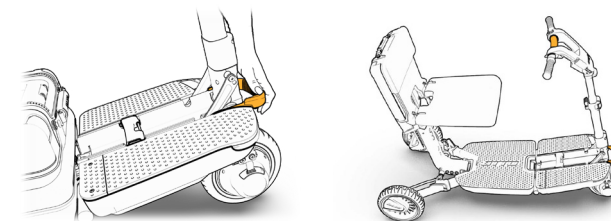

Figure 41
5. Use one hand to keep the rod upright. Using your other hand, release the front lever (1) In case the front lever requires too much force to operate, you should apply horizontal pressure on the main handle towards the front of the ATTO (2). This will release the pressure on the front lever and will make it easier to open (3) (see Figure 41).